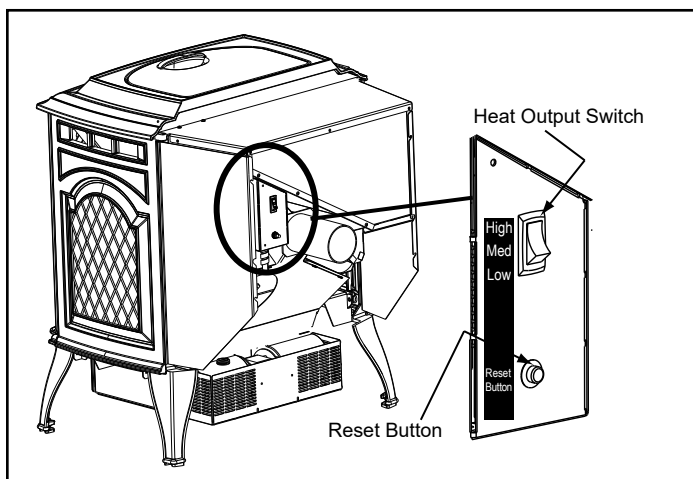
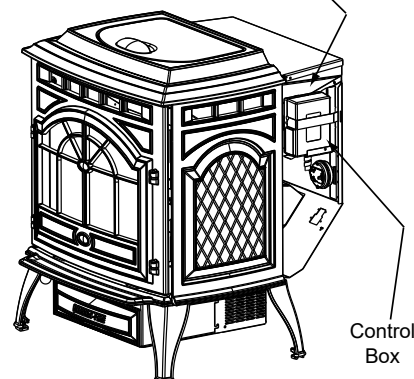

Figure 10.1
Figure 10.2
2. **Heat Output Controls:** This appliance is equipped with a heat output control switch that has three settings or burn rates; low, medium and high. The appliance will turn on and off as the thermostat demands. When the thermostat calls for heat, the appliance will start up at the burn rate for which it is set. If the appliance is set at one of the lower settings, it will run quieter but take longer to heat up an area than if it were set at a higher burn rate. Regardless of the burn rate, when the area is warm enough to satisfy the thermostat, the appliance will shut off (Figure 10.1).
3. Locate the heat output control switch mounted on the back of the appliance in the upper right corner (Figure 10.2). Turn it to the "high" setting by pushing the top of the control switch in and then adjust the thermostat to its highest setting. Remove the right side panel and the red call light located to the left of the control box will be on (Figure 10.2). This indicates the thermostat is calling for heat.
3. Occasionally the appliance may run out of fuel and shut itself down. When this happens, the red call light will be on (**Figure 10.2 on page 10**). To restart it, fill the hopper and press the reset button (**Figure 10.1, page 10**). When you press the reset button the red call light will go out. Release the button and the light will come back on. You should see a fire shortly. If not, follow **Starting Your First Fire** on page 10.